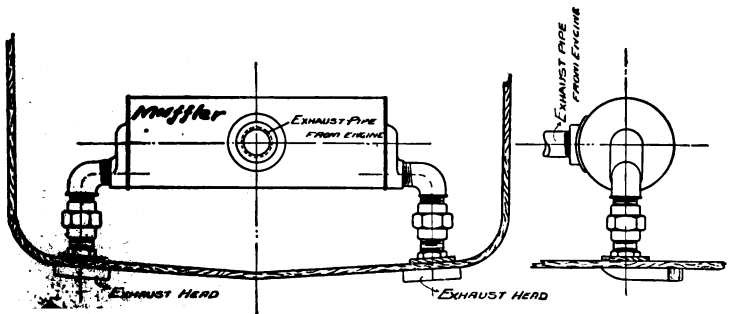

FIG. 24.— Underwater Exhaust.
*Underwater Exhaust.* Fig. 24 illustrates a common form of exhaust below the water line. In this case there are two outlets from the muffler. This form is a little more expensive than that with one outlet, but it is used considerably with the ejector muffler.